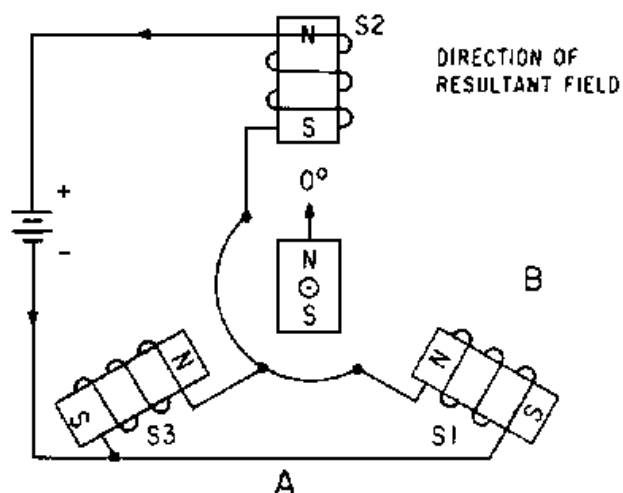

Figure 1-9.—Operation of three electromagnets spaced  $120^\circ$  apart.
Keeping in mind these basic points, consider how the bar magnet reacts to three electromagnets spaced  $120^\circ$  apart as illustrated in figure 1-9. In this figure, stator coils S1 and S3, connected in parallel, together have the same field strength as stator coil S2. The magnetic field is determined by current flow through the coils. The strongest magnetic field is set up by stator coil S2, since it has twice the current and field strength as either S1 or S3 alone. A resultant magnetic field is developed by the combined effects of the three stator fields. Coil S2 has the strongest field, and thus, the greatest effect on the resultant field, causing the field to align in the direction shown by the vector in view B of the figure. The iron-bar rotor aligns itself within the resultant field at the point of greatest flux density. By convention, this position is known as the zero-degree position. The rotor can be turned from this position to any number of positions by applying the proper combination of voltages to the three coils, as illustrated in figure 1-10, view (A), view (B), view (C), view (D), view (E), view (F).